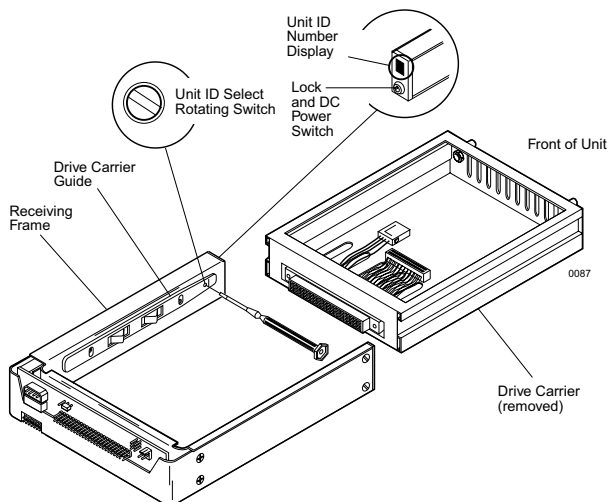

Figure 10: Unit ID Select Switch Location
3. Use the alignment tool supplied with the DE100i-A100 to select the ID number of the disk drive. Refer to Figure 10 for the location of the ID Select Switch inside the receiving frame. Table 2 lists the valid unit ID numbers available for the drive.